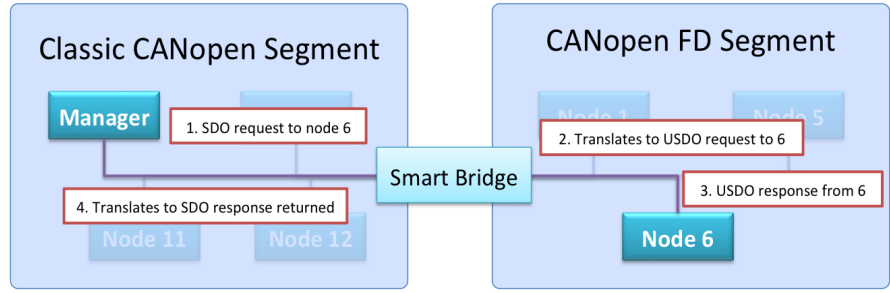

Figure 2: Handling SDO / USDO forwarding (Source: Emsa)
Figure 2: Cross-section of a tool spindle with shaft (1), housing (2), housing cover (3), Spindle-Sense (4), radial (5) and axial (6) measuring ring, as well as spindle bearings(7) (Source: Schaeffler)
response on the classic CANopen side. These steps are shown in Figure 2.